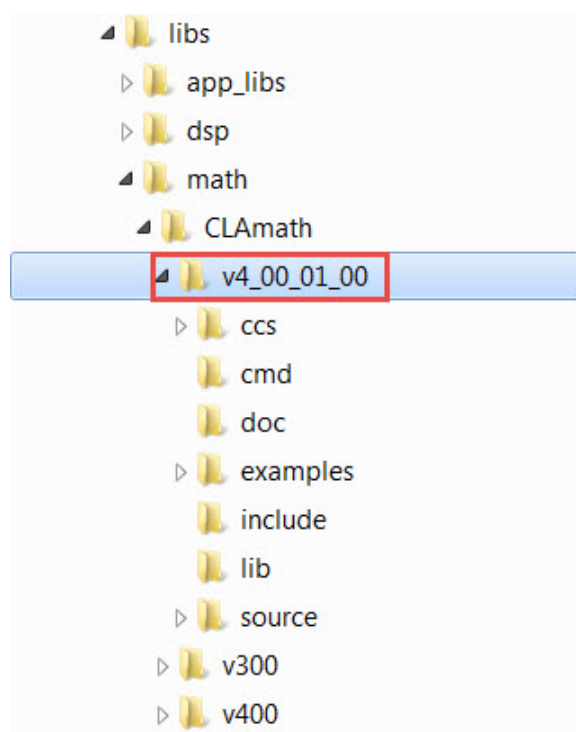

Figure 3.1: Directory Structure of the CLAmath Library
*VERSION* indicates the current revision of the CLAmath library. Figure. 3.1 shows the directory structure while the subsequent table 3.1 provides a description for each folder.